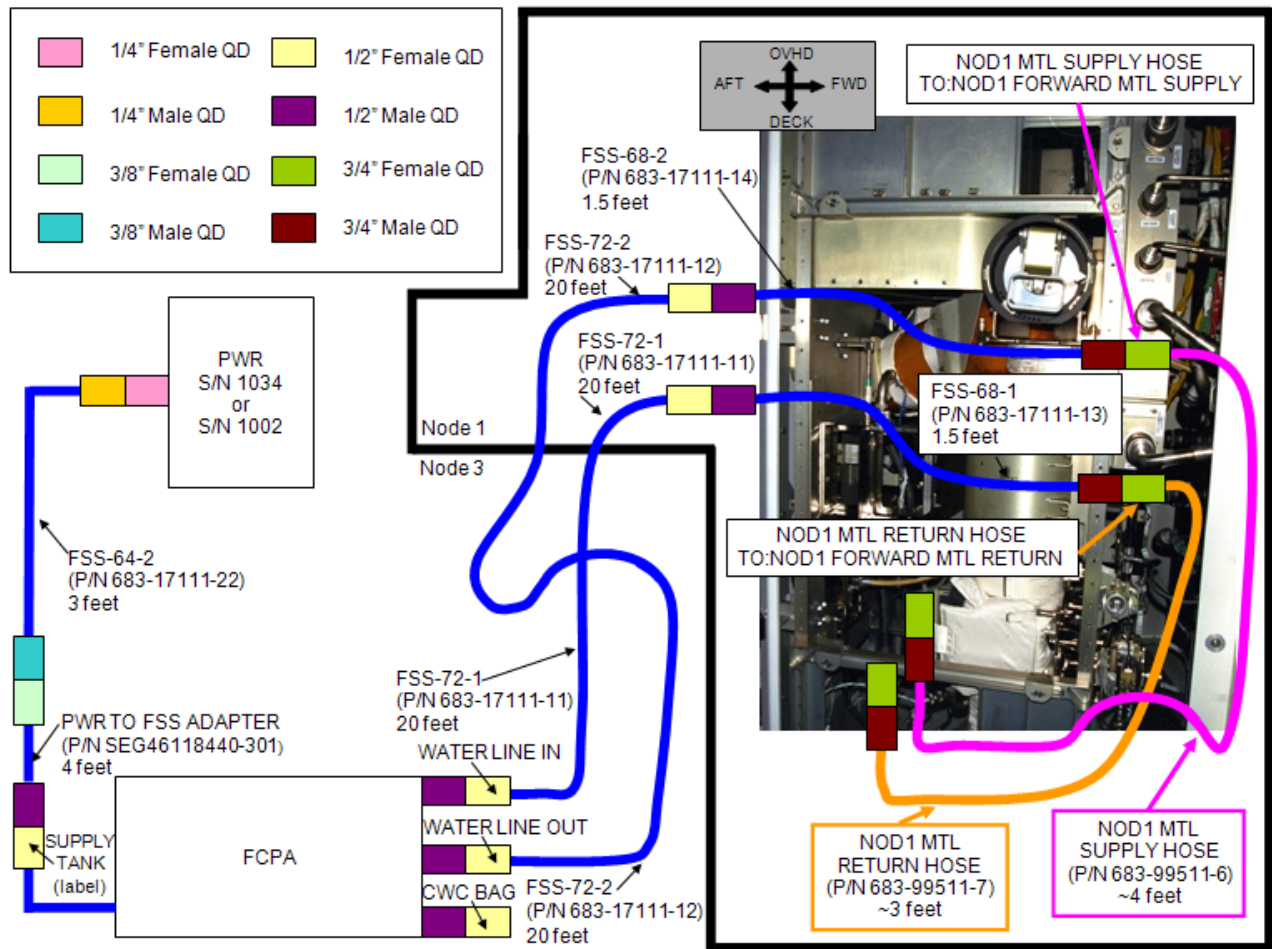

Figure 15.- FSS Jumpers Connected to Node 1 Mod Kit MTL Jumpers Routed in Node 1 Port Alcove (looking Port).
2. PWR S/N 1035 and associated jumpers shown in Figure 15 will not be connected until step 28.
Refer to Figure 15.